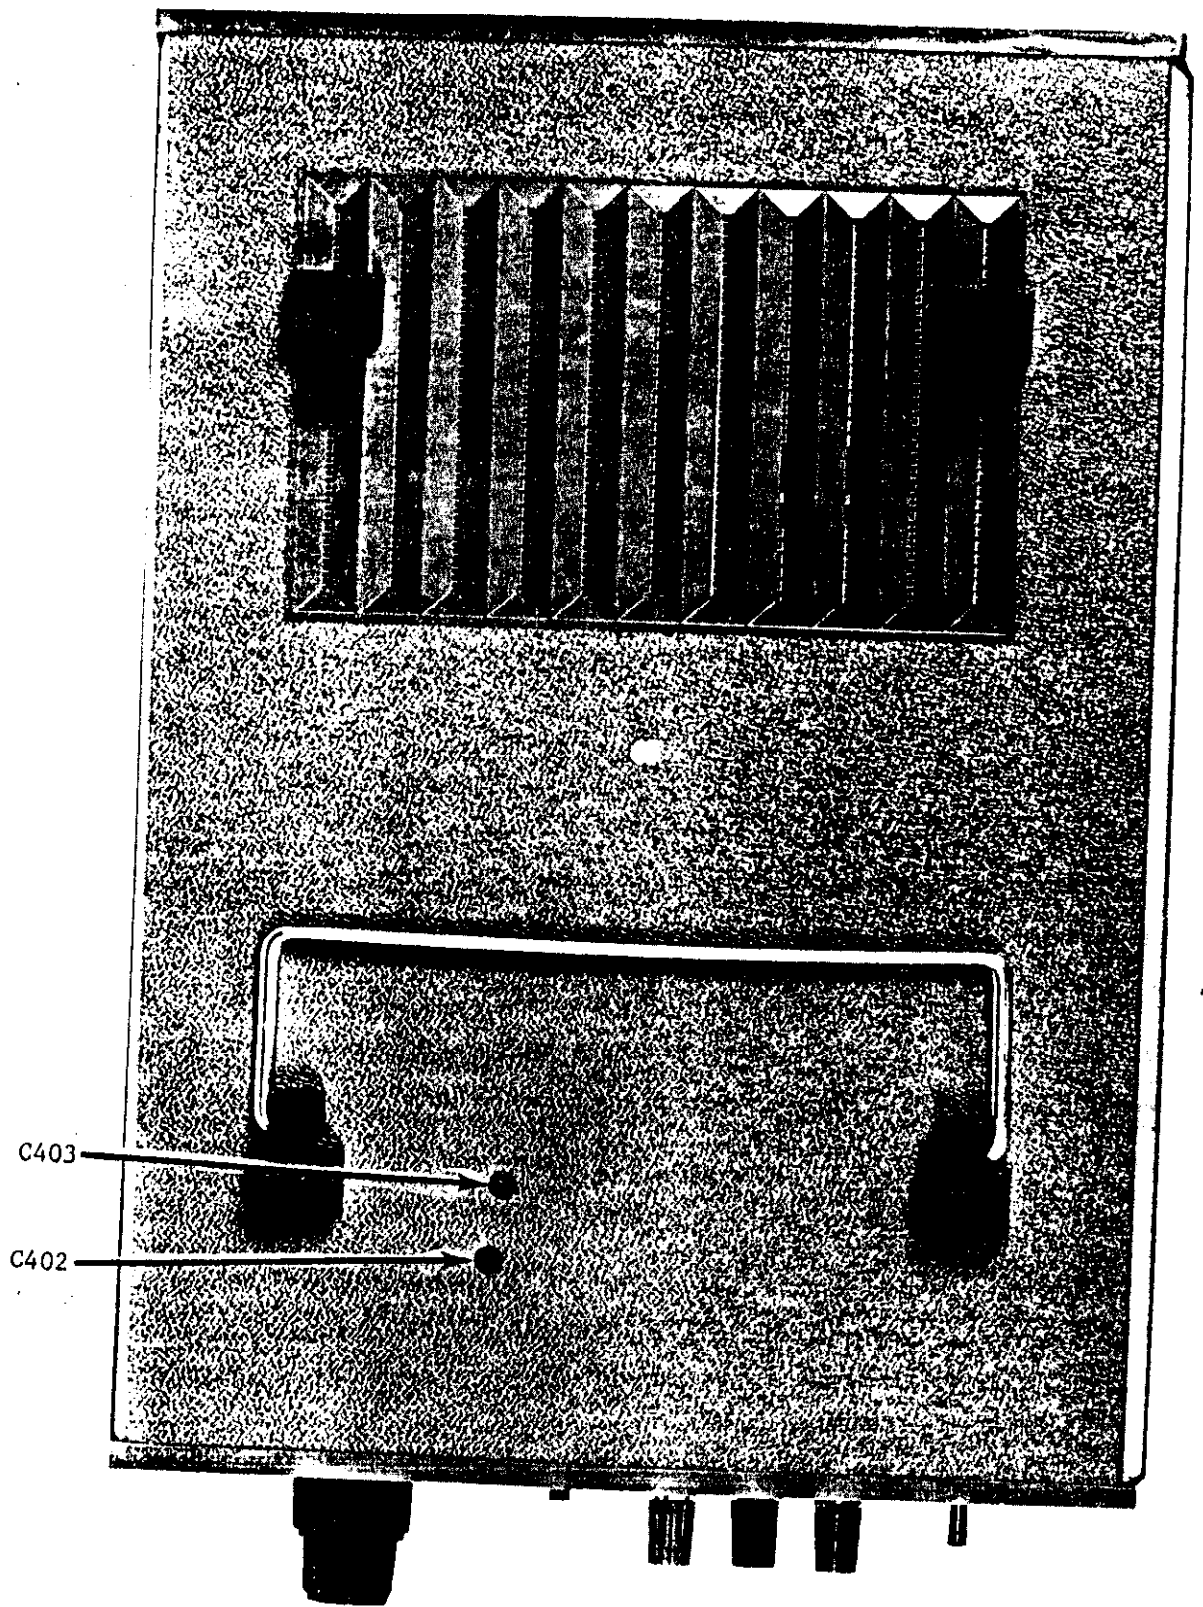

FIGURE 13. Calibration Adjustments through Bottom Cover.
e. DC Volts Calibration Verification. (see Table 5-10). The DC Voltage Source (A) is used directly for the 1 volt to 1000 volt ranges. For the 100 mV and 10 mV ranges, 1 volt from the DC Voltage Source (A) is divided by a ratio of 10:1 and 100:1 respectively using the Voltage Divider (B). For convenience, it is recommended that the tests of Table 5-10 be done in the autoranging mode. They may also be done in the manual range mode. Verification should be made for both positive and negative inputs. Table 5-10 indicates the allowed reading tolerance, equivalent settings, and temperature coefficient. If dc volts cannot be verified, repeat Paragraphs 5-4c. If dc volts still cannot be verified, consult Troubleshooting Section 5-5.
f. DC Amps Calibration Verification. (see Table 5-11). The DC Current Source (D) is used for the 100 microamp through 100 milliamp ranges. The 1000 milliamp range may be verified at the 100 milliamp level, since both the 100 and 1000 milliamp ranges use the same sensing resistance. For the 1 and 10 microamp ranges, DC Voltage Source (A) and DC Current Resistors (E) are used to develop the appropriate test currents. Settings for the DC Voltage Source (A) and the resistance box called DC Current Resistors (E) are given in Table 5-11. Both positive and negative currents should be verified. Autoranging is suggested for convenience, except on the 1000 milliamp range where it is necessary to use the manual range mode. The manual mode may be used on all range tests if desired. If dc amps cannot be verified, consult Troubleshooting Section 5-5.
g. Ohms Calibration Verification. (see Table 5-12). The Resistance Source (G) is used for all ohms ranges of the 165 through the 10-megohm range. A discreet 100-megohm resistor, Resistance Source (H) is used for the 100-megohm range. On this range, the sensitivity of the 165 is 1 pA per digit. Ideally, the 100-megohm resistor should be shielded to avoid electrostatic pick-up. However, it is possible to verify this range without grounded metal shielding around the resistor, if care is used not to move anything around in the vicinity of the 100-megohm resistance, creating small electrostatic currents. Again, autoranging is suggested for convenience, although manual ranging may be used throughout. If ohms cannot be verified, repeat Paragraphs 5-4c. If ohms still cannot be verified, consult Troubleshooting Section 5-5.
1. Set the 165 to the AC VOLTS function, manually selecting the 1-volt range. Connect the AC Voltage Source (C) to the input terminals of the 165. Set the AC Voltage Source (C) to 1 volt output at 20kHz. Record the 165 display reading.
2. Set the AC Voltage Source (C) to 100 volts output at 20kHz. Adjust calibration variable-capacitor C402 (see Figure 13 and the bottom cover of the 165) so that the 165 displays the same digits as recorded in step 1. Tolerance on this adjustment is ± 0.5 digit.
3. Set the AC Voltage Source (C) to 10 volts output at 20kHz and adjust calibration variable-capacitor C403 (see Figure 13 and the bottom cover